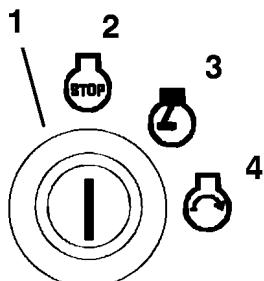

Figure 13
6. Turn the ignition key clockwise to the run position (Figure 13).
9. Turn the key to the start position and the glow plug indicator light will come back on. When the engine starts, release the key (Figure 13).
2. Turn the ignition key clockwise to the run position (Figure 13).
4. Turn the ignition key to the off position (Figure 13). Wait for all moving parts to stop before leaving the operating position.